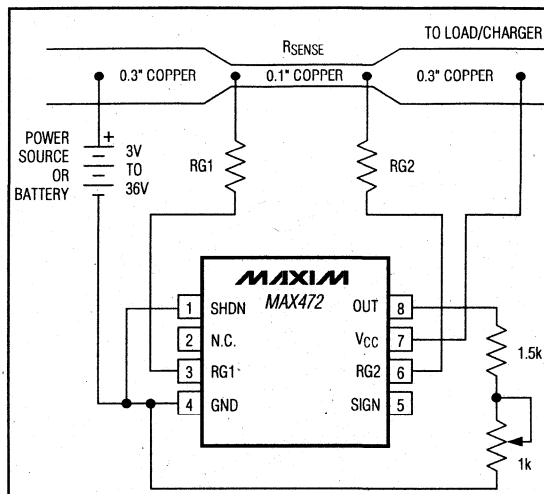

Figure 6. MAX472 Connections Showing Use of PC Board Trace
- Cost:** If the cost of R_{SENSE} becomes an issue, you may want to use an alternative solution, as shown in Figure 6. This solution uses the PC board traces to create a sense resistor. Because of the inaccuracies of the copper "resistor," you will need to adjust the full-scale current value with a potentiometer. Also, the resistance temperature coefficient of copper is fairly high (approximately $0.4\%/^{\circ}\text{C}$), so systems that experience a wide temperature variance should take this into account.
In Figure 6, assume the load current to be measured is 10A and that you have determined a 0.3 inch wide, 2 ounce copper to be appropriate. The resistivity of 0.1 inch wide, 2 ounce copper is 30mΩ/ft (see Note 4). For 10A you may want $R_{SENSE} = 5\text{m}\Omega$ for a 50mV drop at full scale. This resistor will require about 2 inches of 0.1 inch wide copper trace.